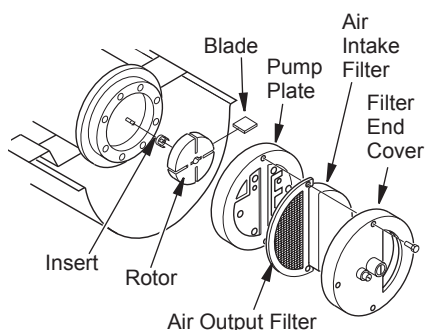

Figure 21 - Rotor Location
2. Remove filter end cover screws using 5/16" nut driver (see Figure 21).